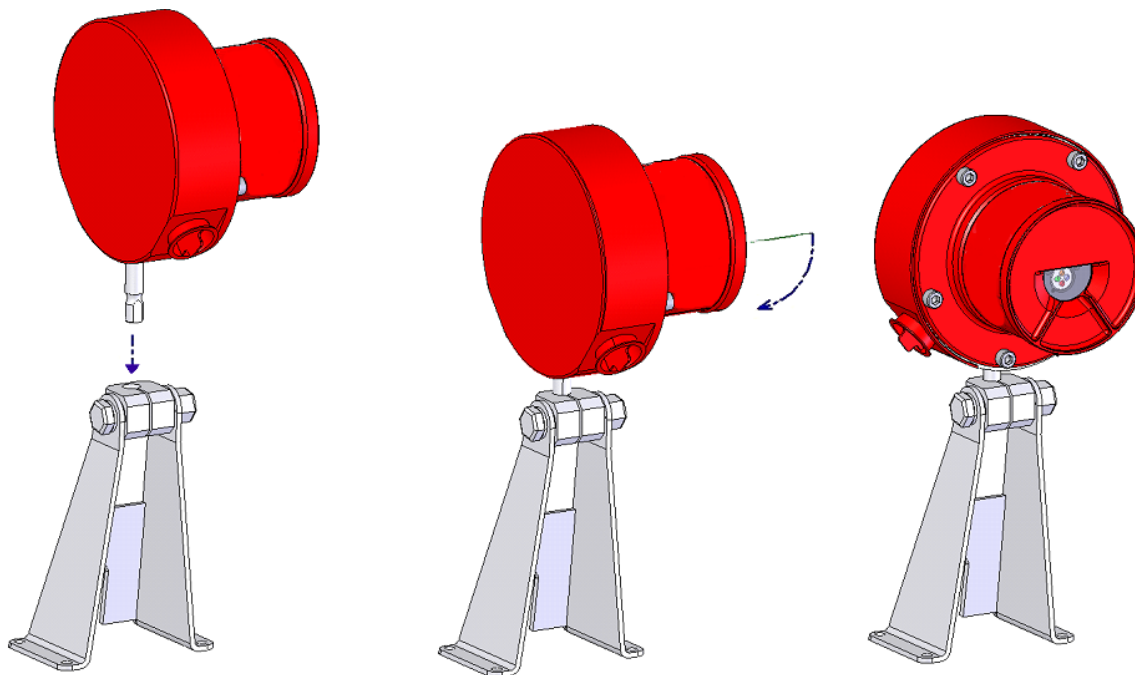

Figure 2 Mounting Instruction
- c. Attach the Detector as shown in Figure 2 below.